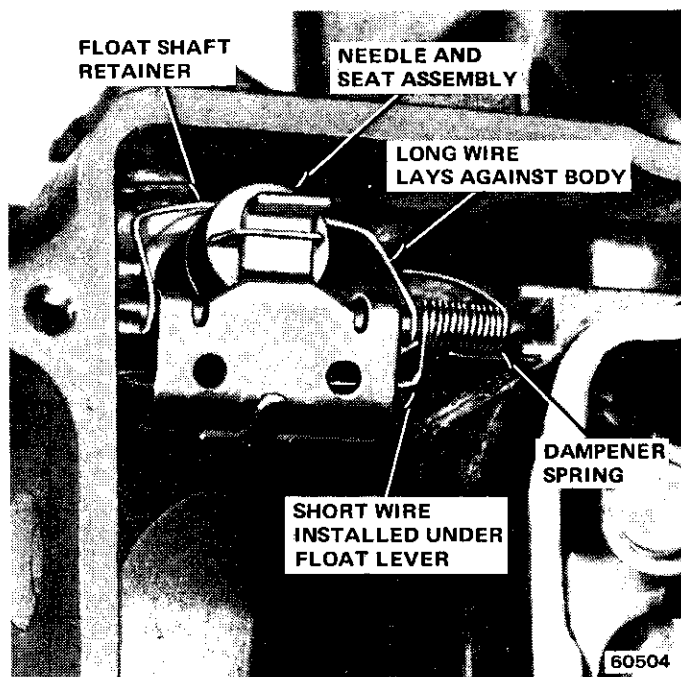

Fig. 1J-54 Damper Spring Installation
(7) Insert accelerator pump operating rod into in-board hole of accelerator pump actuating lever.
(8) Position accelerator pump operating rod retainer over hole 3 in overtravel lever.
(9) Invert main body and install power valve and replacement gasket. Tighten valve securely.
(10) Install power valve cover and replacement gasket.
(11) Install idle mixture adjusting screws and springs. Turn screws in gently with fingers until they just touch seat, then back off two turns for preliminary idle fuel mixture adjustment.
(12) Install main jets.
(13) Install fuel inlet seat and replacement gasket. Install fuel inlet needle assembly in fuel inlet seat. Fuel inlet needles and seats are matched assemblies. Be sure correct needle and seat are assembled together.
(14) Slide float shaft into float lever. Position float shaft retainer on float shaft.
(15) Install float damper spring with short wire under float lever (fig. 1J-54).
(16) Insert float assembly into fuel bowl and hook float lever tab under fuel inlet needle assembly. Insert float shaft into its guides at sides of fuel bowl.
(17) Press float shaft retainer into groove on fuel inlet needle seat and check float setting. Refer to Service Adjustment Procedures.
(18) Drop accelerator pump discharge ball into passage in main body.
(19) Position replacement booster venturi gasket and booster venturi in main body.
(20) Drop accelerator pump discharge weight into booster on top of discharge ball.
(21) Install air distribution plate and accelerator pump discharge screw and tighten screw.